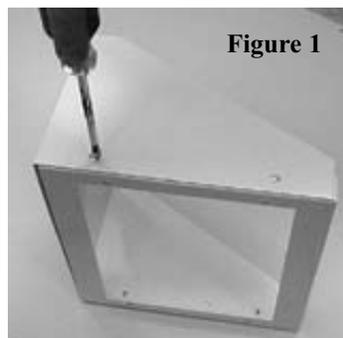

Figure 1
5. For side mounting, remove the four screws securing the faceplate to the mounting bracket, rotate faceplate 90°, and re-install screws (Figure 1).